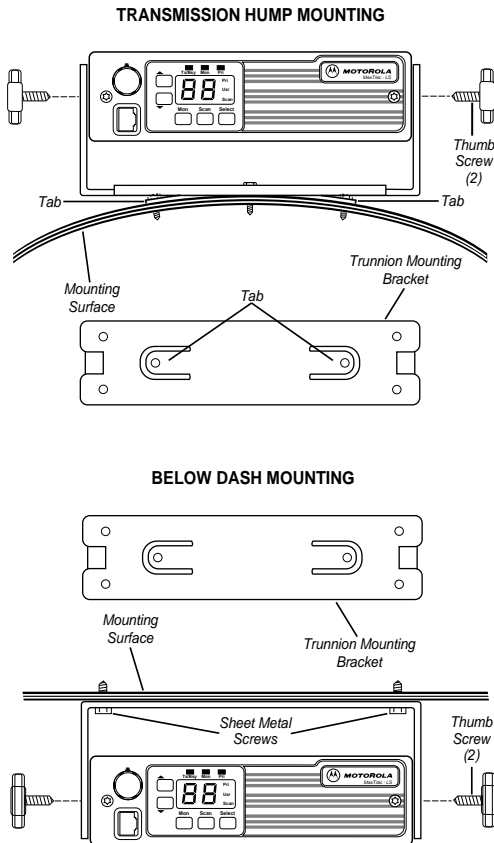

Figure 5 - Methods of Trunnion Mounting Radio
1. Select the location to mount your radio - either on the transmission hump or under the dashboard. See Figure 5.